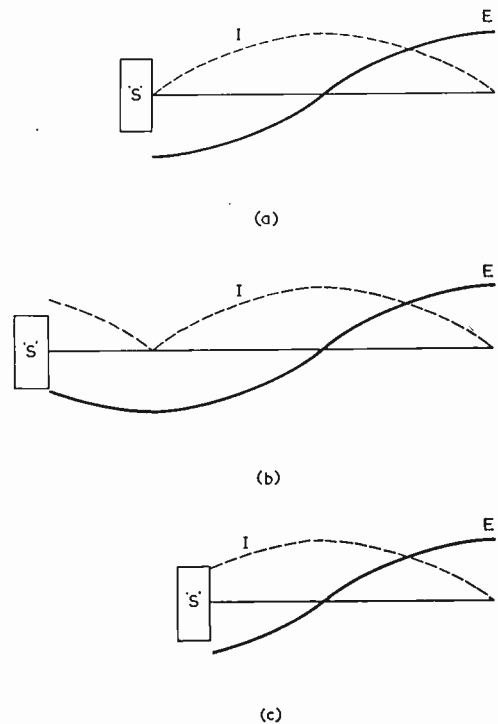

Fig. 2. The impedance 'seen' by the transmitter at a single frequency varies according to the length of the wire
In Fig. 2 three random lengths of wire are indicated, together with their voltage (E) and current (I) curves in relationship to a given frequency. If the wire is one half wavelength at this frequency, as at (a), the station ('S') 'sees' a point of high impedance which may be several thousands of ohms. At (b), and at the same frequency, the station 'sees' a somewhat lower impedance for the wire is longer. And what about (c), where the wire is shorter than one half wavelength?